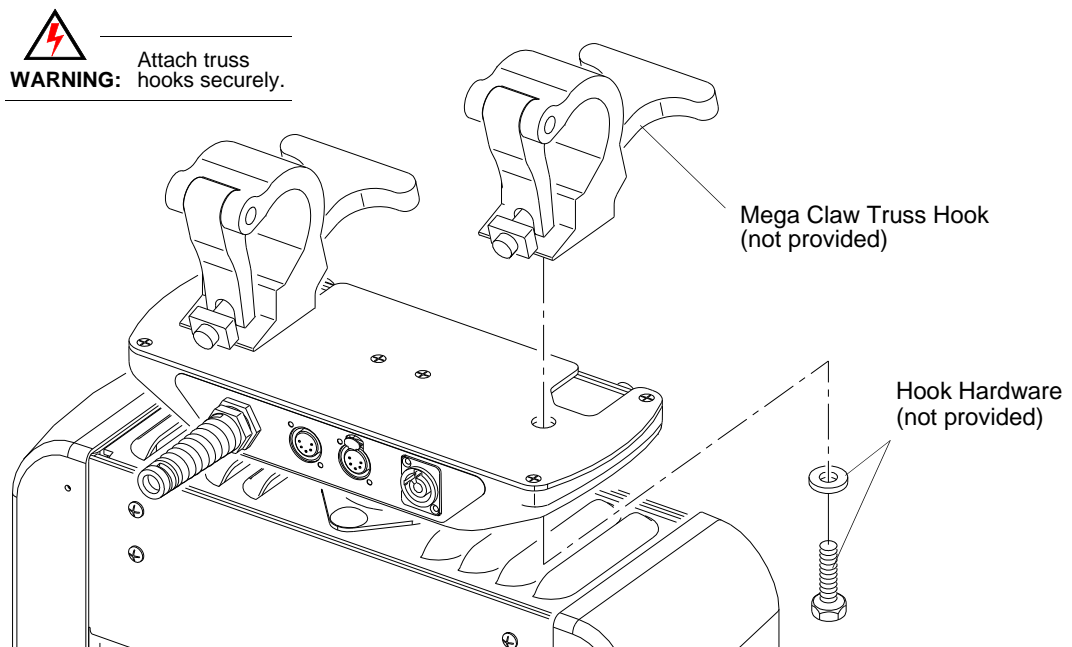

Figure 2-9: Example Luminaire Truss Hook Installation
- Step 1. At pan tube base, attach two truss hooks as shown below (Figure 2-9).